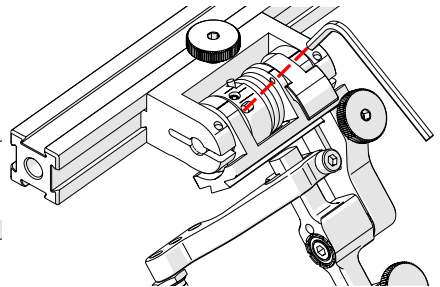

Fig. 56 - Unlatched position
3. Insert the short arm of a 3 mm hex wrench into the 3 mm slot (Fig. 56).